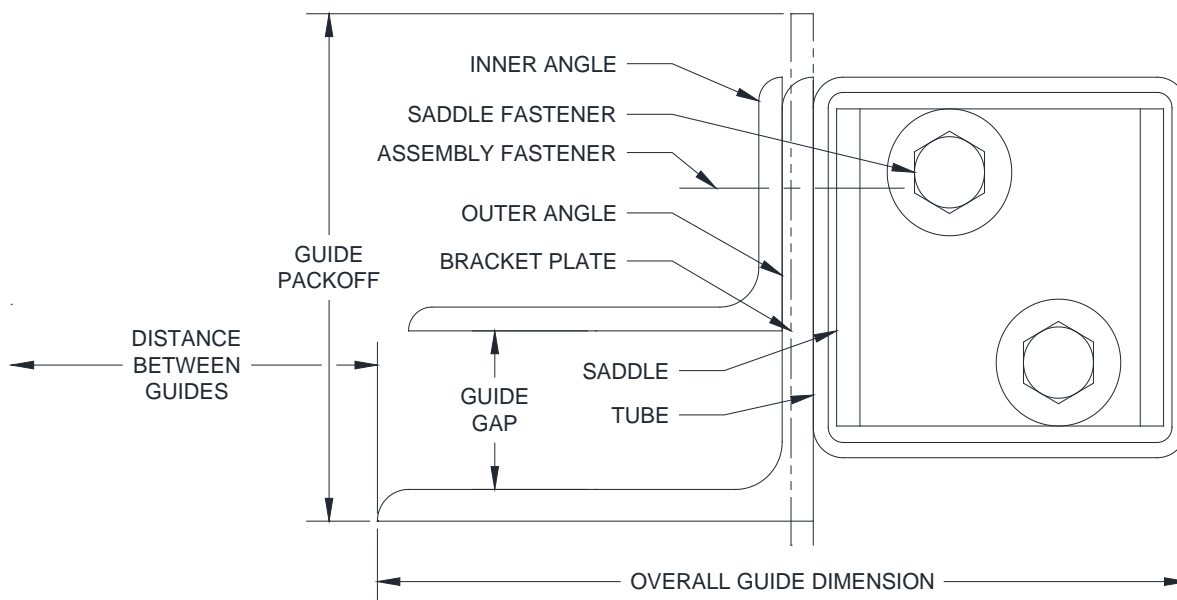

Figure 5.10 – Between Jambs Two-Angle Guide Mounting to Tubes
3. Determine where the fascia of the door will be located with respect to the header/lintel (if one exists) and the jamb. See **Figure 5.10.**